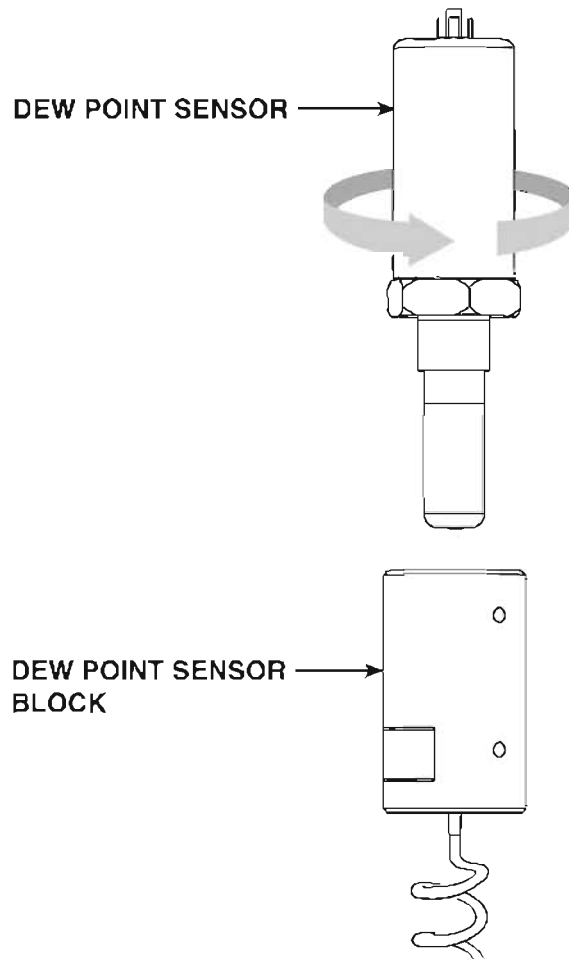

Figure 7.
6. Unscrew the dew point sensor from the sensor block and replace it with the new or re-calibrated sensor. (See Figure 7)